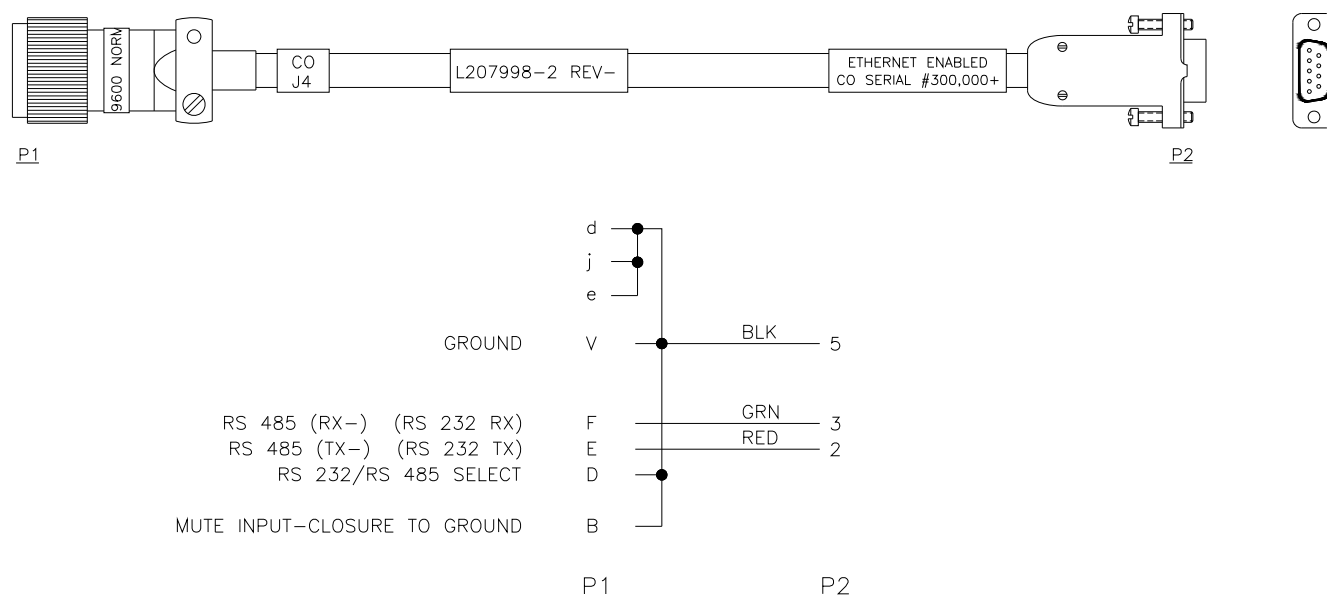

Figure 3-8: RS-232 Quick Start Cable, 207998
Non Ethernet ready units are shipped with a Quick Start cable fitted with a 9-pin D-sub connector and are configured for RS-232 communications as shown in **Figure 3-8**.
5. Connect the supplied “Quick-Start” Control Cable from Port J4 of the SSPA to one of the COM ports on your computer. This connection will unmute the amplifier. Review the cable schematic in **Figure 3-8**.